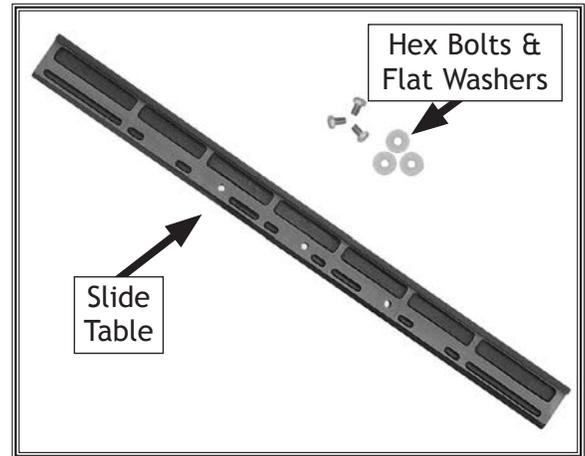

Figure 10. Slide table dismantled.
2. Place slide table on flat surface and remove three hex bolts and flat washers, as shown in **Figure 10**.